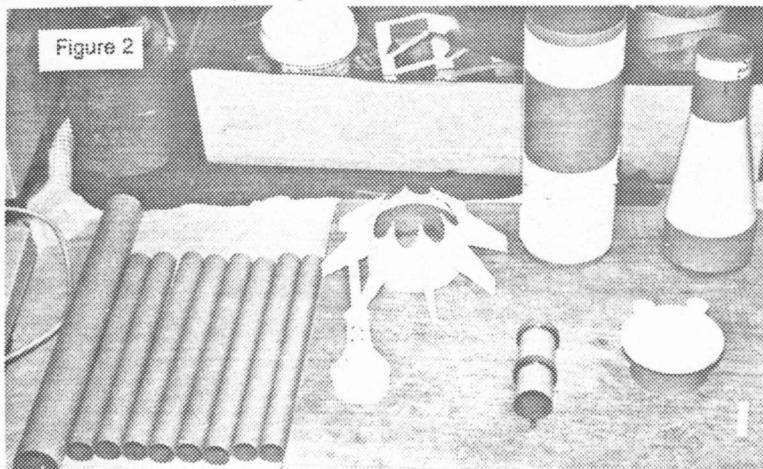

Figure 2
The kit arrived in a very attractive box. Not only is the box pretty, it is also functional. Everything arrived in excellent shape. (see Figure 1) The fin-halves, nozzles, antenna boards, and body-wraps are vacuum formed. The Apollo capsule, escape tower and rocket, R.C.S. nozzles, and tank shroud are molded plastic. All the parts were well formed except for a few of the nozzles. Construction and painting is divided into 6 major sub-assemblies: (1) Aft body/Fin unit; (2) Second stage body; (3) Lunar excursion module/Service module; (4) Apollo capsule and tower; (5) Display Nozzles and (6) Fuel tube unit. (see Figure 2)